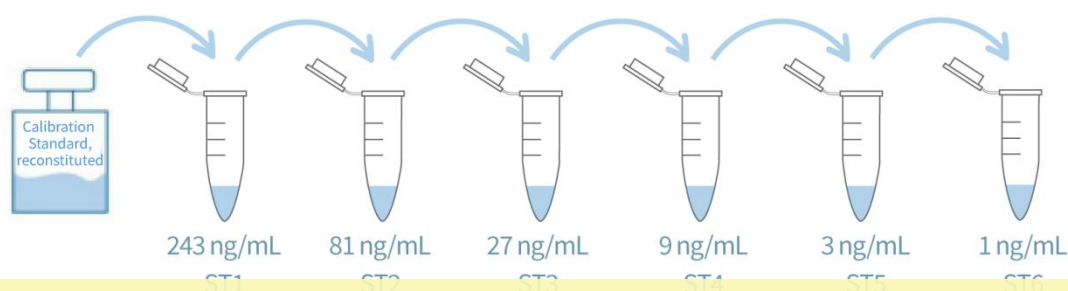

Figure 3. Graphic scheme of Sf9 HCP Calibration Standard solutions
(3) Preparation of Calibration Standard solutions
- Prepare Sf9 HCP Calibration Standard solutions as shown in Fig 3 and Table 3.